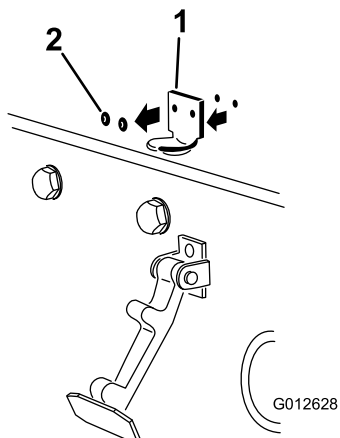

Figure 7
2. Remove the (2) rivets securing the hood latch bracket to the hood (Figure 7). Remove the hood latch bracket from the hood.